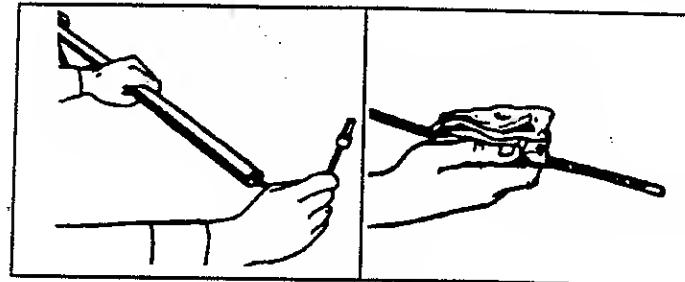

Figure 25
2. Remove the Drive Shaft from the drive Shaft Housing. Figure 25.